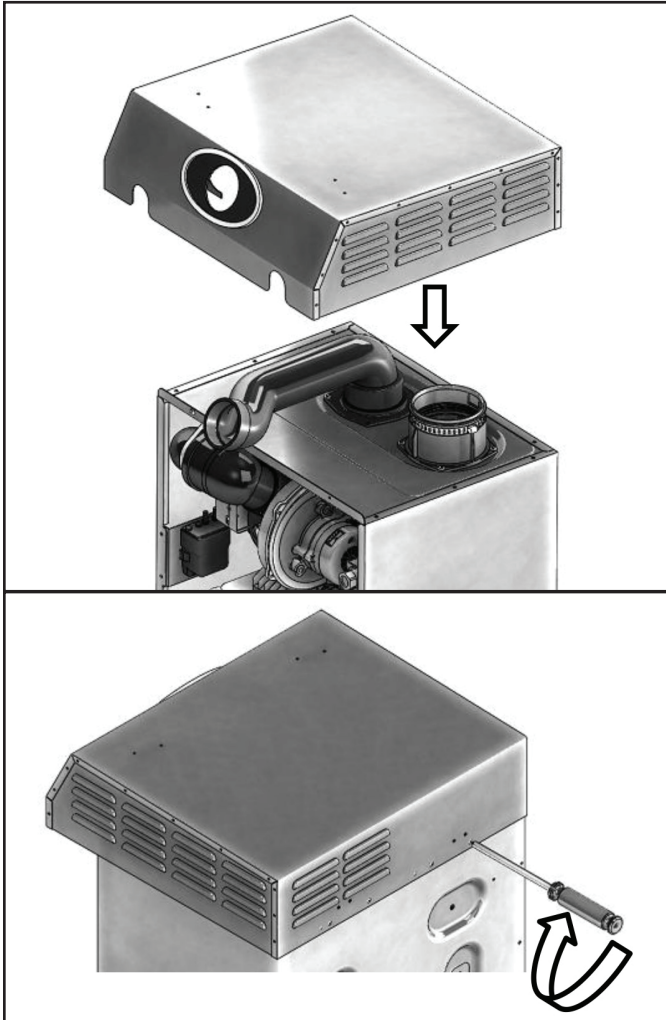

Figure 9 - Installing the Top Cover
4. Use a Phillips Head screwdriver to install the outdoor enclosure top cover on the top of the water heater. See Figure 9.